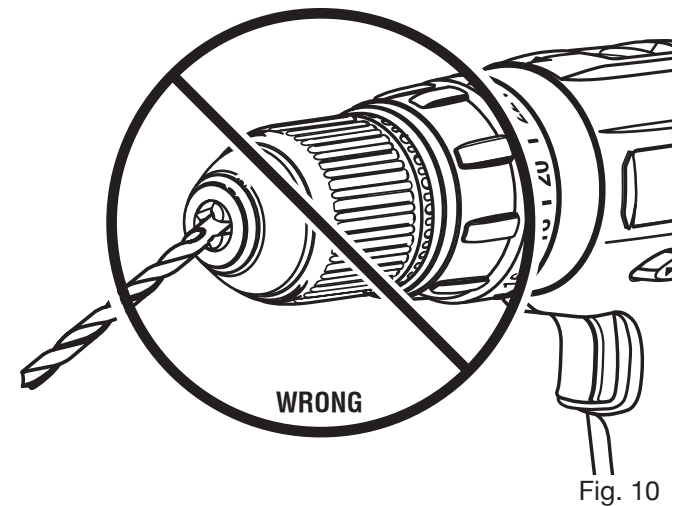

Fig. 10
- Insert drill bit straight into chuck the full length of the jaws as shown in figure 10.